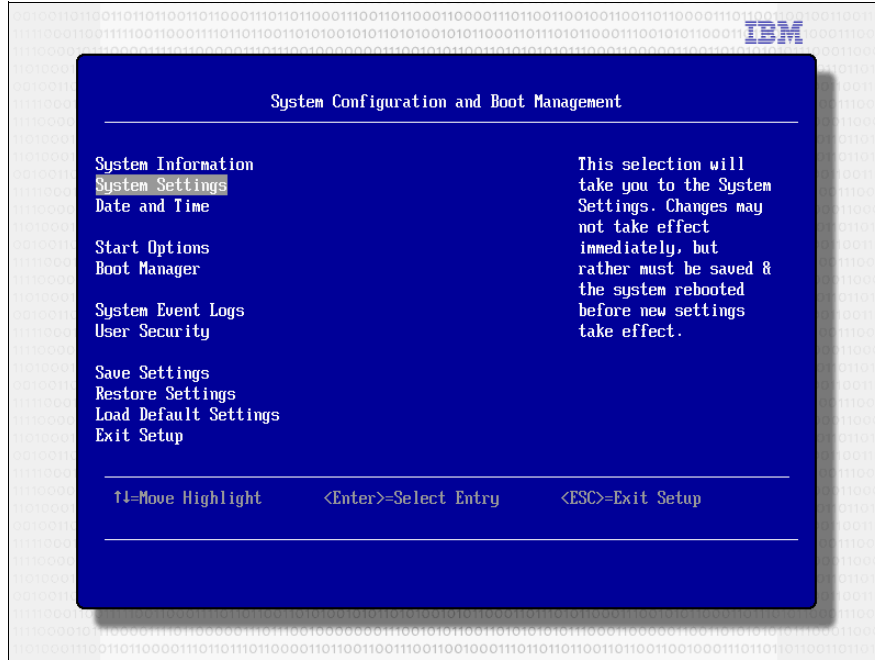

Figure 2-28 F1 Setup main screen
2. Select **System Settings**, as shown in Figure 2-28.